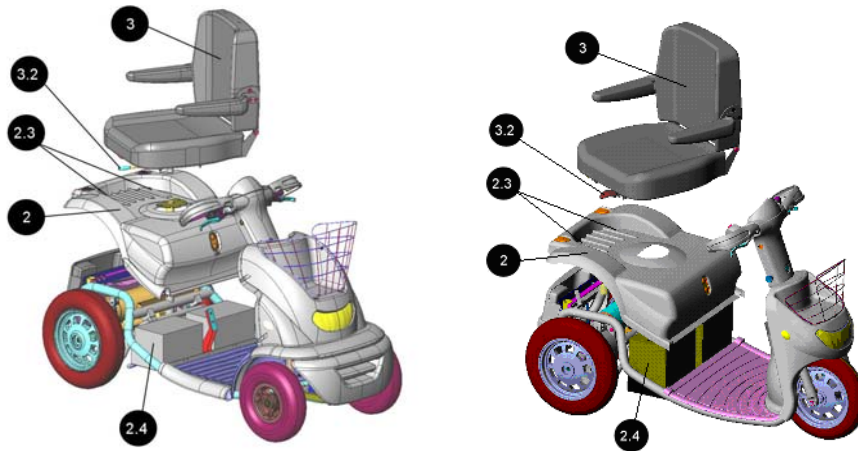

Figure 9: Breeze 4W
2. The numbers in parentheses refer to the parts illustrated in figure 9.
- ✓ **Remark:** For the periodic maintenance no special tooling is needed. (Numbers in the table refers to figure 9)